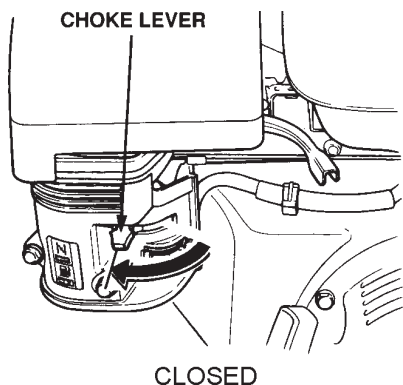

Figure 14. Choke Lever (Closed)
7. If the engine has started, slowly return the choke lever (Figure 14) to the "CLOSED" position. If the engine has not started repeat steps 1 through 6.